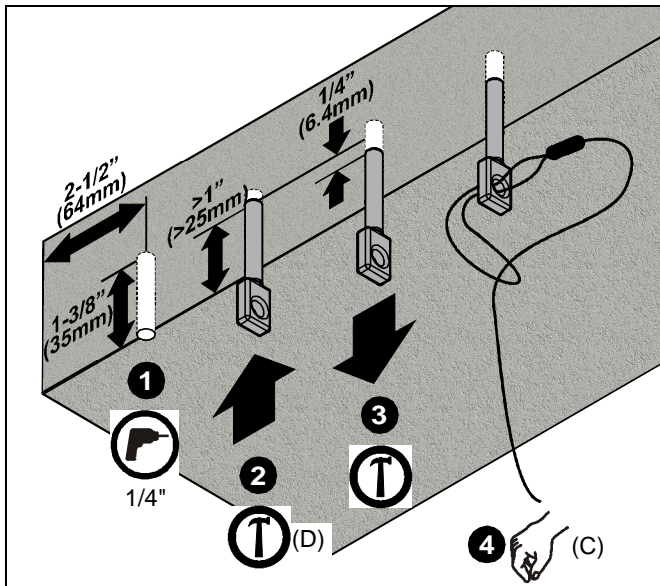

Figure 4
1. Drill 1/4" diameter x 1-3/8" deep hole at each marked cable anchor support location (See Figure 4). Ensure hole is at least 2-1/2" from nearest concrete edge. Remove debris from hole.
2. Tap anchor (D) into each hole to a depth of at least 1" (25mm). (See Figure 4)
3. Using claw portion of hammer, set each anchor (D) by pulling it out of hole approximately 1/4" (6.4mm). (See Figure 4)
4. Insert portion of manufactured loop on cable (C) through hole in anchor (D) (See Figure 4). Insert end of cable (C) through loop. Repeat for 3 remaining support locations.